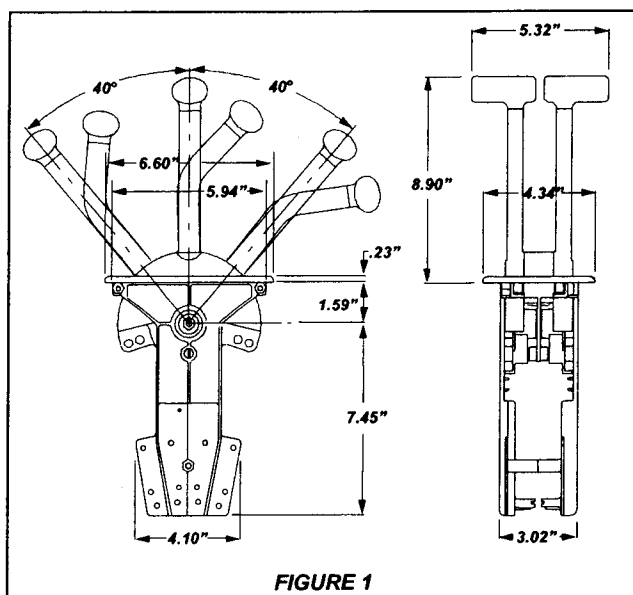

FIGURE 1
1. Select a location which allows convenience of operation and full travel of control handles in both directions. Ensure that handles clear windshield, steering wheel and other equipment on the dashboard. Make sure that there is sufficient clearance under the mounting surface for the control body and cable routing. See figure 1.